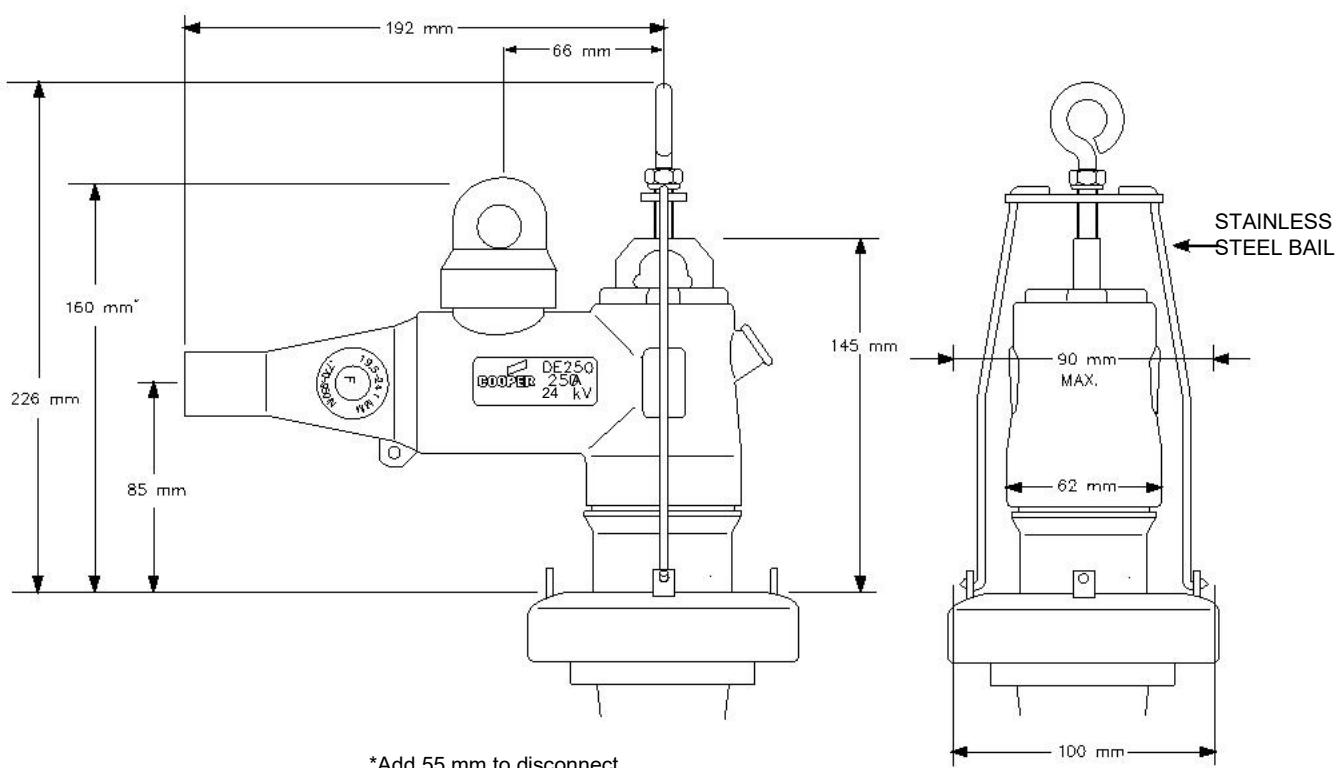

Figure 2. DE250 deadbreak elbow connector dimensional information.
11. Stainless Steel Bail (Figure 2 or 3)